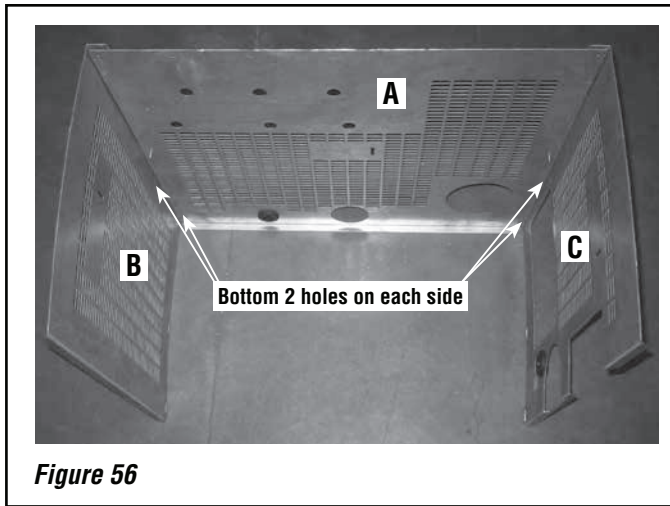

Figure 56
3. **Assemble the perimeter (see **Figure 56**) - Using only the bottom 2 holes on each side**, screw the left side panel (B) and the right side panel (C) to the back panel (A).